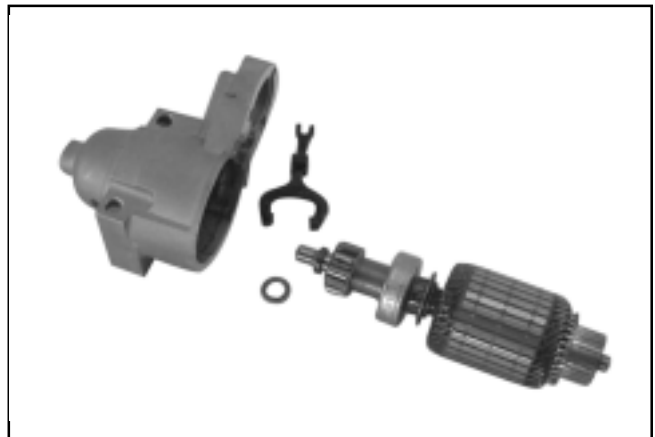

Figure 8-20. Armature and Lever Removed.
8. Take out the drive lever and pull the armature out from the drive end cap. See Figure 8-20.
9. Remove the thrust washer from the armature shaft. See Figure 8-20.